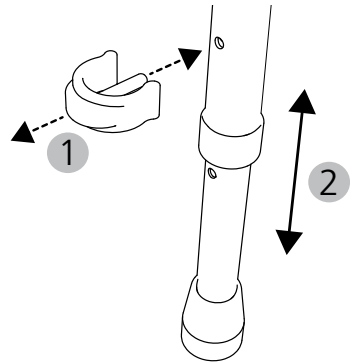

Abb. 3
1. Pull out the pin clip on the telescopic leg (Fig. 3, 1).
2. Adjust the telescopic leg to the desired length (Fig. 3, 2). Ensure holes in the inner and outer pipes are covered.
3. Re-insert the pin clip (Fig. 3, 1) until the clip is fully engaged on the tube. The pin clip must visibly and noticeably come out of the hole again.